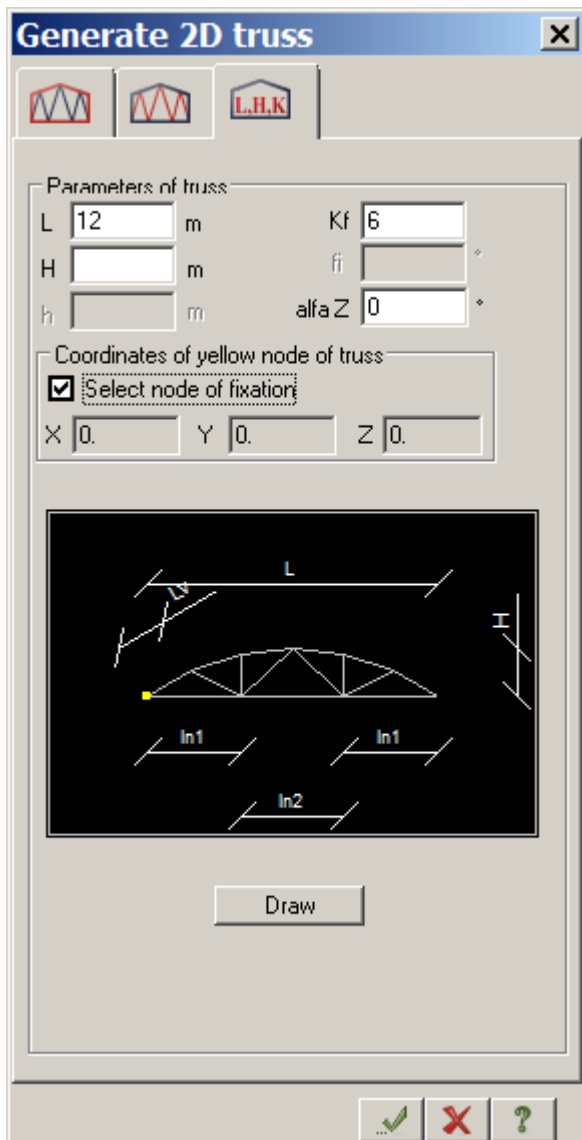

Figure 3.5 Create 2D truss dialog box
- ⇒ When you define the web, the third tab of the dialog box is active. Define the following parameters of the truss (see Fig.3.5):